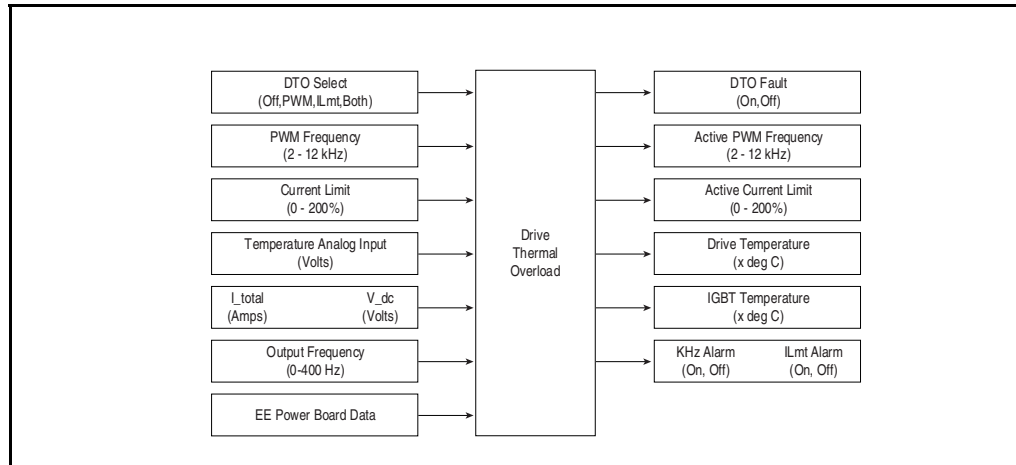

Figure 13.20 – Thermal Manager Inputs/Outputs
The Drive's temperature is measured (NTC in the IGBT module) and displayed as a percentage of drive thermal capacity in Drive Temp (218). This parameter is normalized to the thermal capacity of the drive (frame dependent) and displays thermal usage in % of maximum (100% = drive Trip). A test point, "Heatsink temperature" is available to read temperature directly in degrees C, but cannot be related to the trip point since "maximums" are only given in %. The IGBT temperature shown in Figure 13-20 is used only for internal development and is not provided to the user.